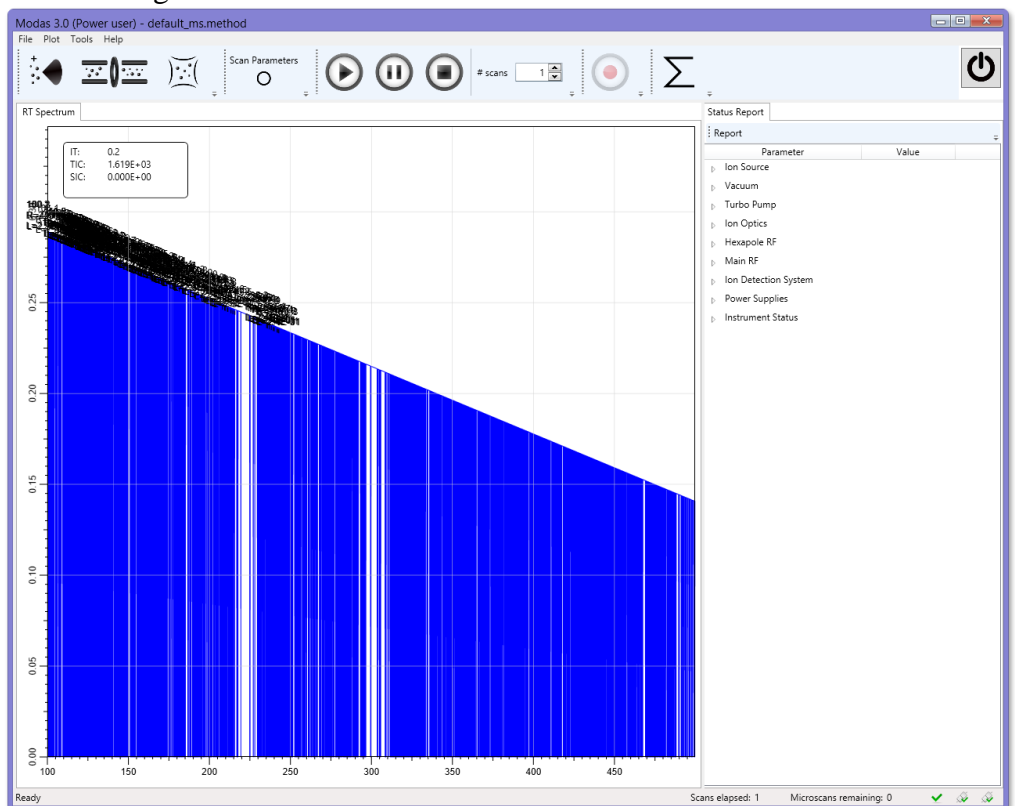

Figure 7.9. Typical spectrum with Multiplier voltage set to Zero.
6. Acquire the spectrum. The noise level should be around 5...10, as shown in Figure 7.9.